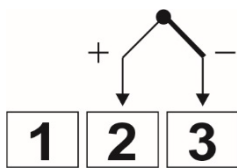

Figure 10 – Thermocouple connection
- **Thermocouples:** Figure 10 shows the connection mode for thermocouple sensors. If you need to extend the thermocouple wires, use appropriate compensating cables.